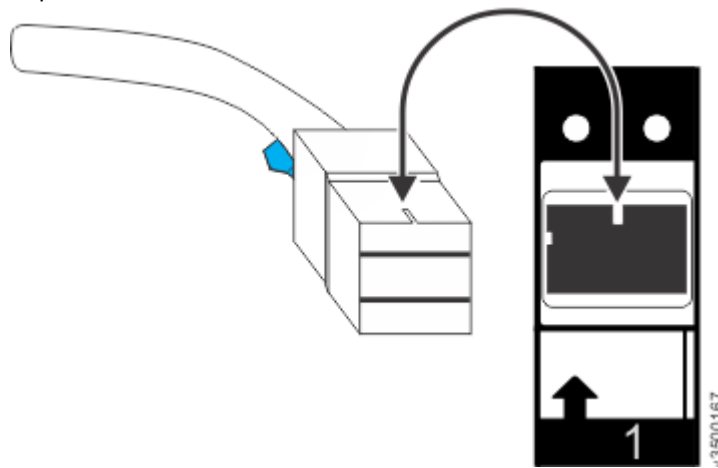

Figure 1. Proper orientation for SAS cable connector
- Figure 1 on page 44 shows the correct orientation. The blue tab is always below the port for expansion enclosure attachment SAS cables.